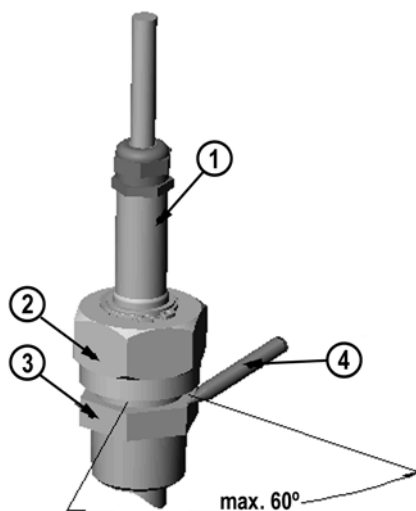

Figure 15 Tightening the Clasp Nut
The following numbers refer to Figure 15 on page 32:
10. Tighten the clasp nut with a fork spanner a further 50 ... 60° (ca. 1/6 turn). If you have a suitable torque spanner, tighten the nut to max 45 ± 5 Nm (33 ± 4 ft-lbs). Refer to Figure 15 on page 32.